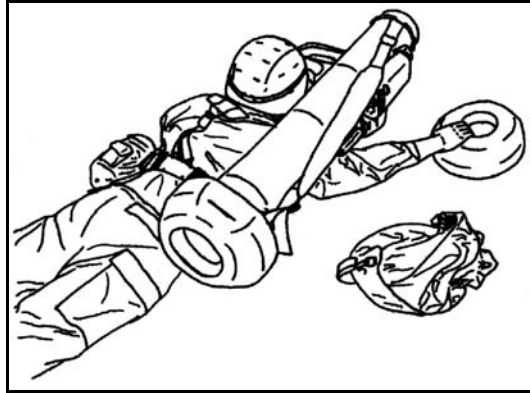

Figure 2-28. Reaching for forward end cap.
(9) Place the forward end cap directly under the open end of the Javelin.
(10) Open the NVS and daysight lens covers.
(11) Check the backblast area. Ensure no personnel are located in the primary danger zone or caution areas.
(12) Position the body so it is parallel with the Javelin with the left hand tightly on the left handgrip. Placing the left hand on left handgrip helps guide the Javelin and maintain control. The right shoulder should be just behind the shoulder pad to balance the weight.
(13) The gunner tilts his body and the Javelin to the left side and, at the same time, reaches out with the right hand to secure the forward end cap (Figure 2-28).